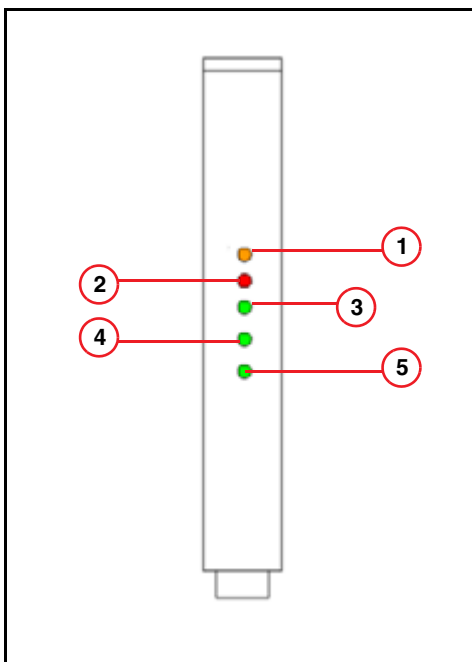

Fig. 12: Parallel back projector board D4/D5
- The yellow LED **RDY** (1/Fig. 12 / p. 37) indicates that the driver is loaded and the board is ready.
- The red LED **ERR** (2/Fig. 12 / p. 37) indicates an error. In this case, start a back projector test with the Service Software.
- The green LED's **DMA IN** (3/Fig. 12 / p. 37) and **DMA OUT** (4/Fig. 12 / p. 37) indicate when a DMA is being performed.
- The green LED **TACT** (5/Fig. 12 / p. 37) indicates that a task is active.